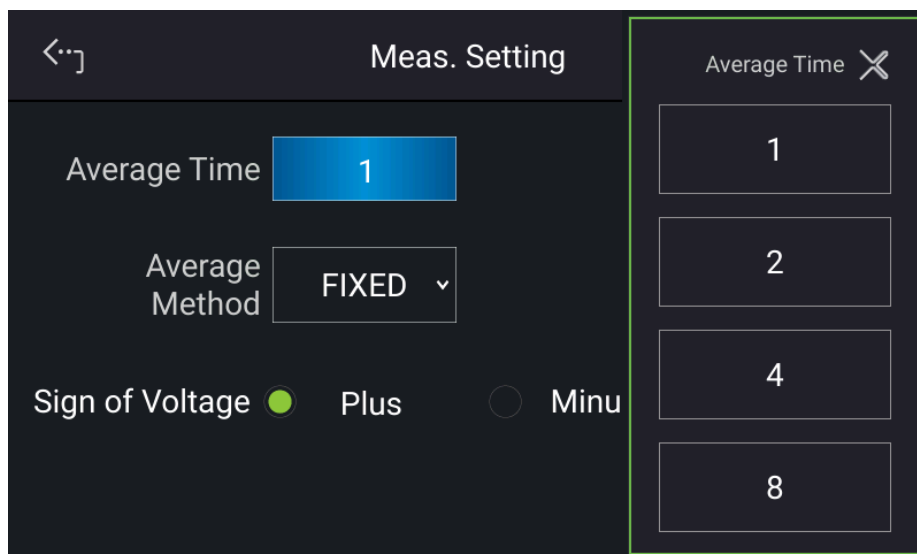

Figure 3-22
1. The way to change the reading average times is shown in Figure 3-22.